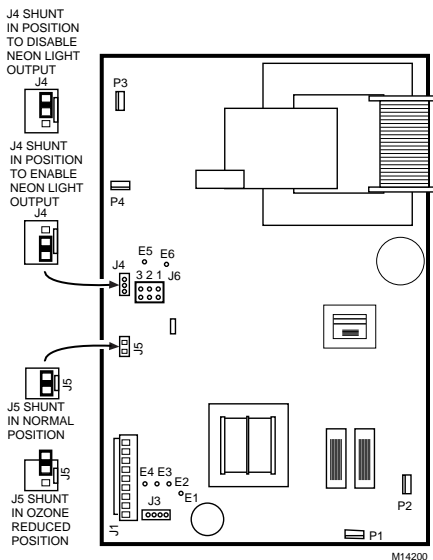

Fig. 15. Move J5 shunting bar to reduce ozone production about 20 to 25 percent..
- Route the leads through the cable clamp and hook the cable clamp to the tab on the left front of the power supply. Push down the tab to hold the cable clamp in place. See Fig. 15.
- d. Locate J5 shunting bar on the power supply. See Fig. 15. Remove the shunting bar and reinstall on only one pin.